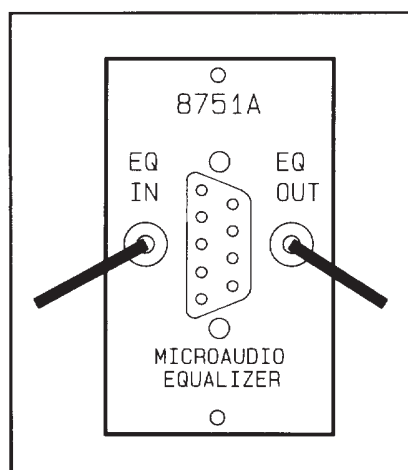

Figure 1 Connector Assy. Face
2. Carefully route the pig-tailed wires through the connector opening on the rear panel. Position the **8751A** connector plate flush against the panel and orient as shown in Figure 1. Secure with the two screws you removed in Step 1.